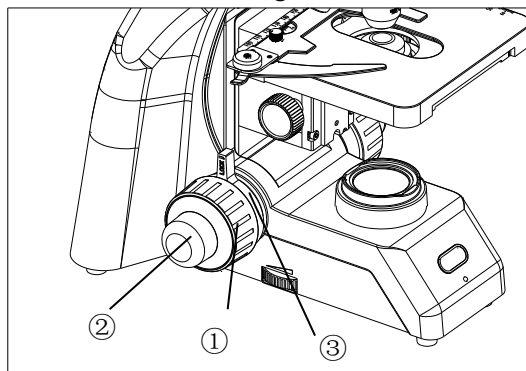

Fig.18
3.2.3 Focusing the Specimen (Fig.18)